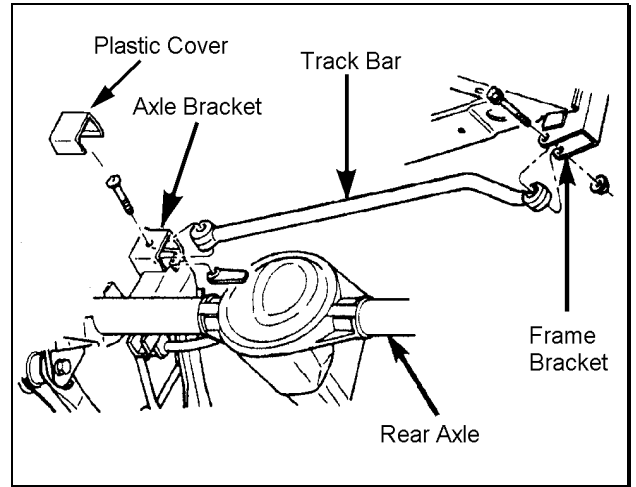

Figure 12
- 2)  Disconnect the track bar from the frame bracket. See figure 12.
- 4)  Separate the track bar from the axle bracket. Remove the track Bar. See Figure 12.